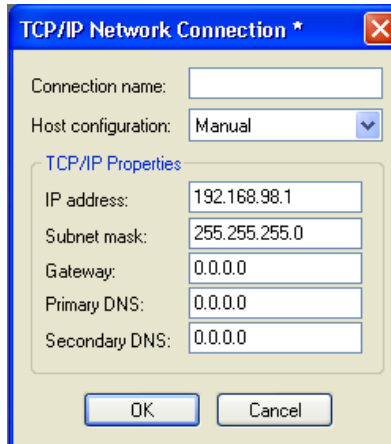

Figure 3: Proper configuration for ExterT60 communication settings
- 1.4. Leave the rest of the settings to default. "TCP/IP Network Connection" window should look like Figure 3 below. Press "OK."